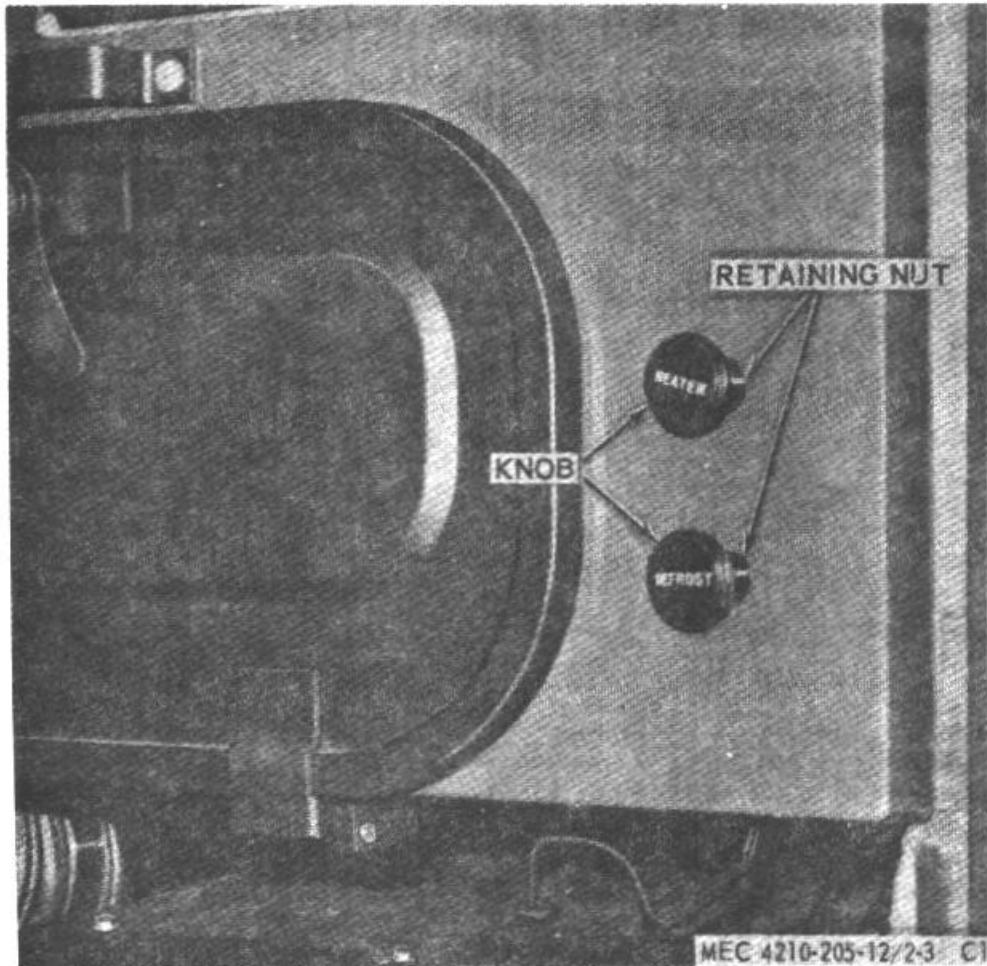

Figure 71.16. Personnel heater controls.
a. *Heater.* Pull heater switch knob (fig. 71.16) outward to actuate the fan. Open the heater doors to allow the air to circulate.